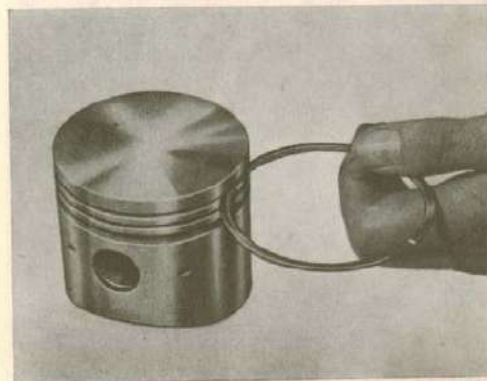

Fig. 1-46. Rolling the piston ring in the groove
3. Check the piston rings in their respective ring grooves by rolling them in the groove, Fig. 1-46. Also measure the clearance at several points, Fig. 1-45. See the specifications for the dimensions.